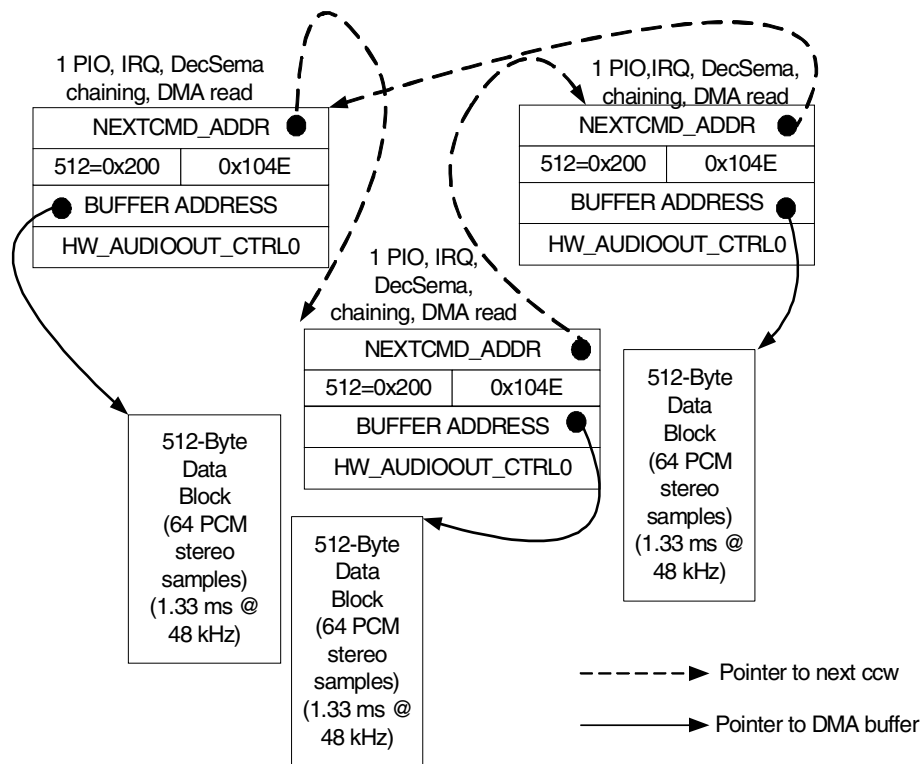

Figure 11-3. AHB-to-APBX Bridge DMA AUDIOOUT (DAC) Example Command Chain
Figure 11-3 shows the CHAIN bit in bit 2 of the second word of the command structure. This bit is set to 1 if the NEXT_COMMAND_ADDRESS contains a pointer to another DMA command structure. If a null pointer (0) is loaded into the NEXT_COMMAND_ADDRESS, it will not be detected by the DMA hardware. Only the CHAIN bit indicates whether a valid list exists beyond the current structure.
The example in Figure 11-3 shows how to bring the basic items together to make a simple DMA chain to read PCM samples and send them out the Audio Output (DAC) using one DMA channel. This example shows three command structures linked together using their normal command list pointers. The first command writes a single PIO word to the HW_AUDIOOUT_CTRL0 register with a new word count for the DAC. This first command also performs a 512 byte DMA_READ operation to read the data block bytes into the DAC. A second and a third DMA command structure also performs a DMA_READ operation to handle circular buffer style outputs. The completion of each command structure generates an interrupt request. In addition, each command structure decrements the semaphore. If the decompression software